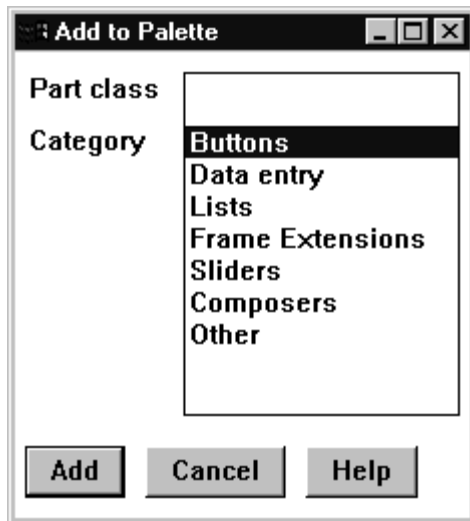

Figure 53. The Add to Palette window
1. In the Composition Editor, select **Modify palette→Add new part** from the **Options** pull-down menu. The Add to Palette window is displayed as shown in Figure 53 on page 150.